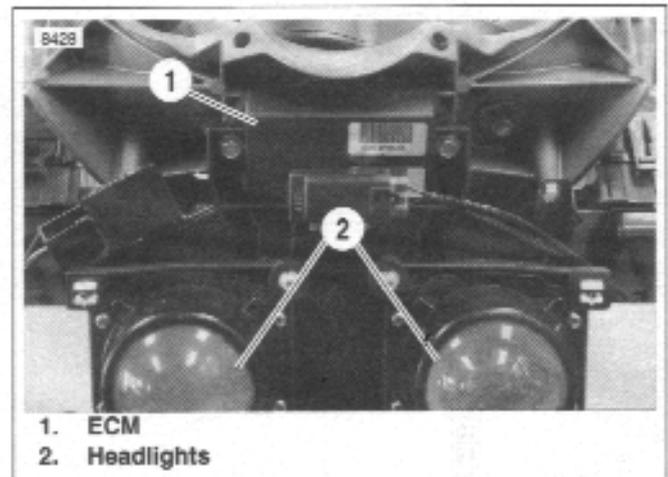

Figure 4-14. Electronic Control Module
2. See Figure 4-14. Inspect connector [10] (black) for contamination or corrosion. If connection is good, replace ECM. See 4.29 ELECTRONIC CONTROL MODULE.